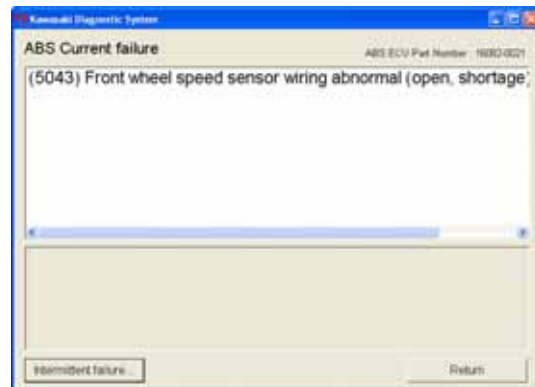

Fig.7-9 Current Failure - Code
- o If a failure exists, it will be listed (Fig. 7-9).